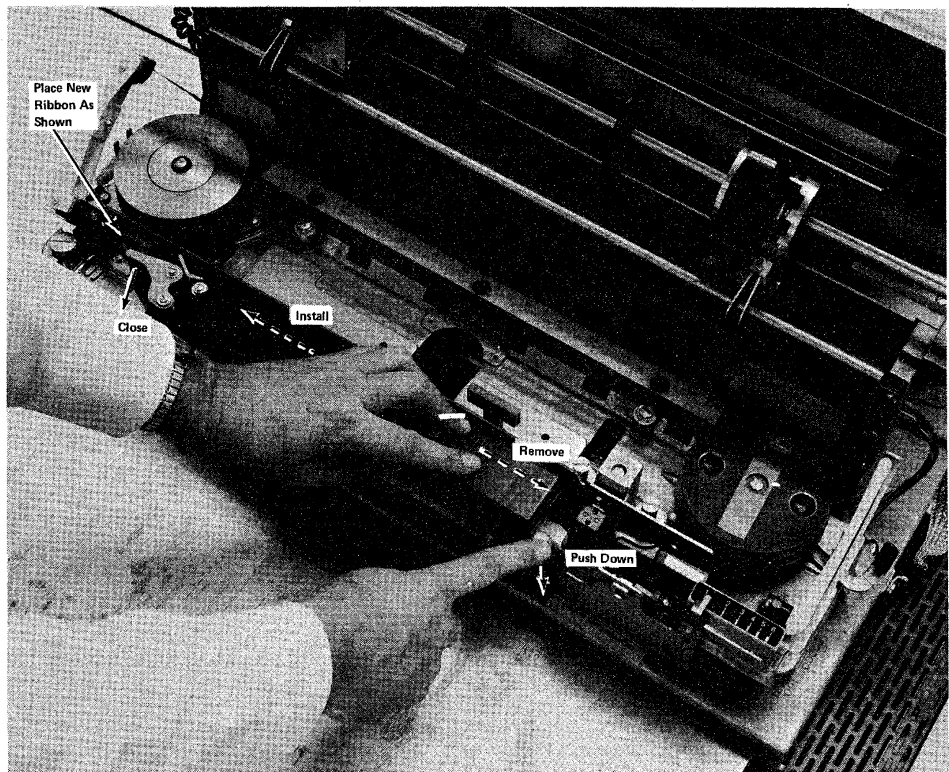

Figure 11-8. Ribbon Cassette Removal/Installation
- 6 Press the ribbon cassette release button down, and slide the ribbon cassette to the right until it is free, as shown in Figure 11-8.
- 7 Remove the ribbon from the ribbon guides shown in Figure 11-8.
- 5 Pull approximately six inches of ribbon out of the left end of the cassette, place the ribbon in between the ribbon drive rollers, press down on the cassette, and slide the cassette to the left until it latches in place as shown in Figure 11-8.
- 7 Close the ribbon drive release lever shown in Figure 11-8.